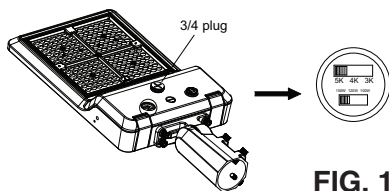

FIG. 1
1. Remove the $\frac{3}{4}$ NPT plug and adjust the switch to the desired CCT and power settings (see **Fig. 1**).